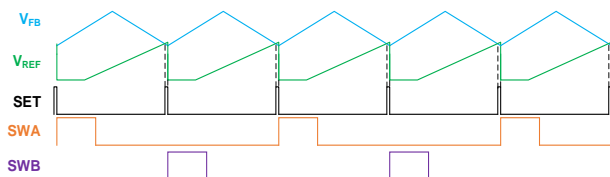

Figure 5: Dual-Phase Interleaving Mode
When buck A and buck B work in interleaving parallel mode, the phase shift between buck A and buck B changes to 180° (see Figure 5 on page 19). Buck C and buck D cannot work in interleaving mode, with the phase shift remaining at 90°.
Figure 5 on page 19 shows the internal SET signal that is triggered when buck A or buck B's feedback (FB) signal is smaller than the internal REF signal. When the SET signal becomes high, only one phase's pulse-width modulation (PWM) output becomes high; the next time SET goes high, the next phase's PWM output goes high. This achieves automatic interleaving.